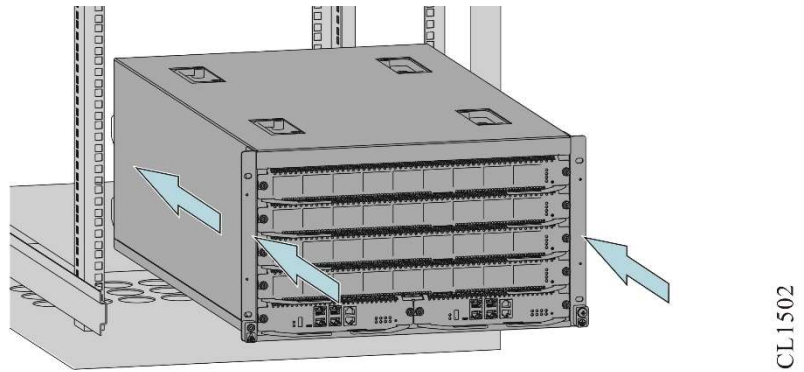

Figure 3-7 Push the chassis into the cabinet
- Step 2: Lift the host and place it on the load-bearing pallet, and push the host into the cabinet until the mounting ears on both sides of the mainframe fit into the square holes, as shown in Figure 3-7.